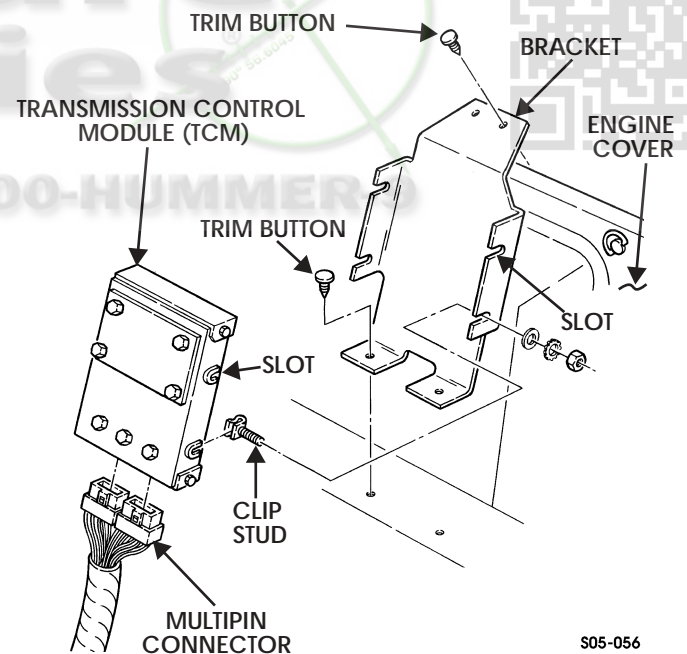

Figure 5-99: TCM and Bracket
3. Disconnect two multi-pin connectors from TCM. Protect connectors from dust, dirt, and damage (Figure 5-99).